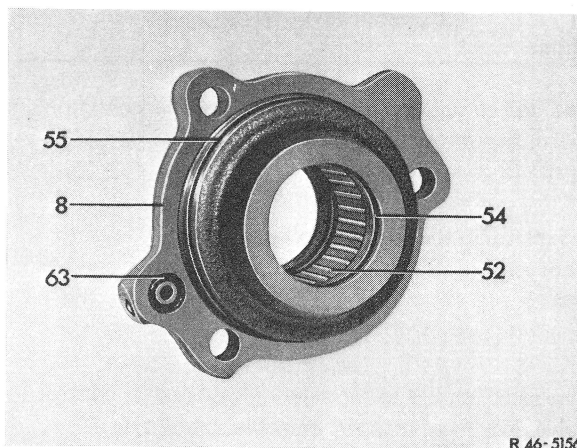

Fig. 5
6 Check needle bushing (25) for wear. Completely replace housing cover, if the needle bushing is damaged. (Fig. 5).